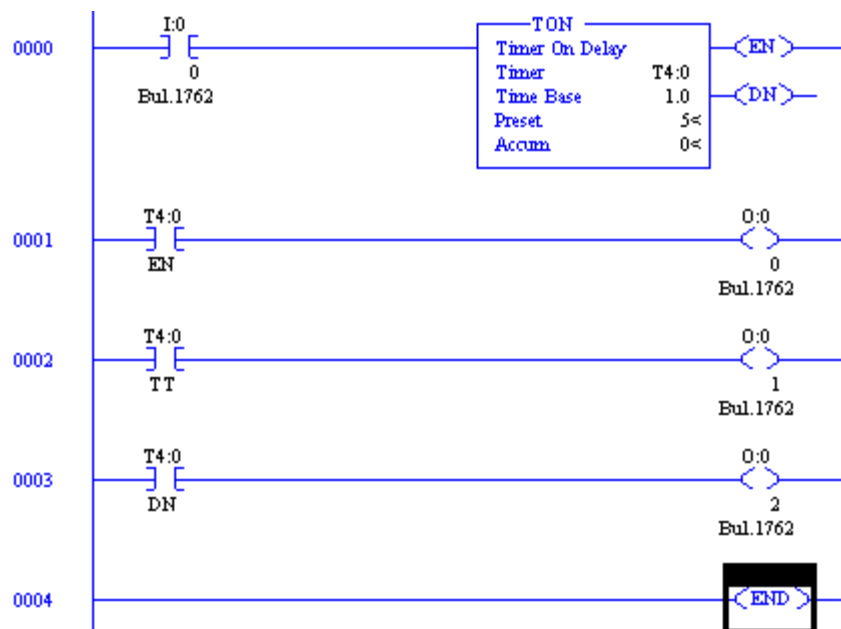

Figure 56. Ladder program using status bits EN, TT, and DN to control outputs.
11. Now you will modify the current program as shown in Figure 56.